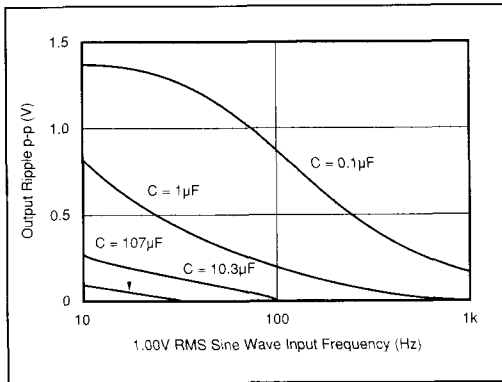
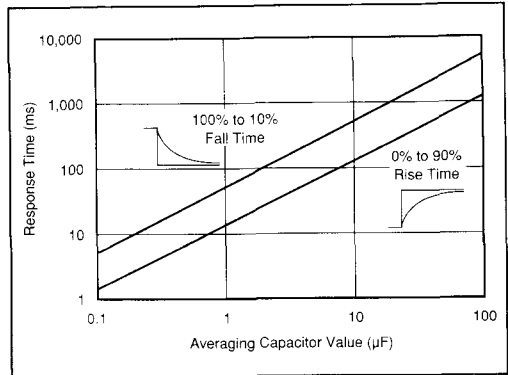

FIGURE 2. Output Ripple Magnitude vs Input Signal Frequency.
FIGURE 3. Response Time vs Value of Averaging Capacitor.
NOTES: (1) After standard trim procedure (see below). (2) Model 4341 will convert DC inputs. Lower frequency AC inputs require a large value of averaging capacitor to minimize ripple at output. (see Figure 2).
Figures 2 and 3 show the effects of the external filter capacitor on ripple magnitude and response time. As the frequency of the input approaches DC, the 4341 begins to act like a full wave rectifier such that the output is the absolute value of the input. While the 4341 will accurately convert DC input voltages, the averaging capacitor must be made very large to minimize ripple at low frequencies.
A single-pole low-pass RC filter provides the averaging function. The time constant is $1/2 RC$ where R is $10k\Omega$ when the 4341 is adjusted for unity gain. To select the best value of C, make a tradeoff between output ripple and response time. Figure 2 shows the ripple magnitude vs frequency for several typical values of capacitor. Response time vs capacitor value is shown in Figure 3. (Note that rise times and fall times are different for the same value of capacitor).